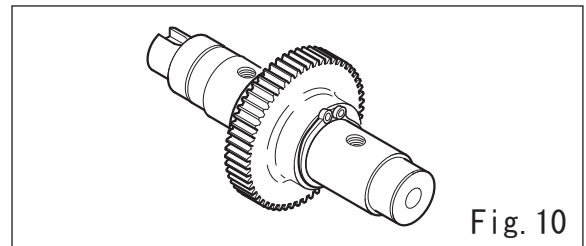

Fig. 10
- ① Separate the bearing cover (30) from the vibrating case
- ② Push out the rotary shaft (drive shaft side) (6) to the opposite side of the pulley of the vibrating case, withdraw the bearing and take off the oil seal (11) also (Remove both outer and inner bearings).
- ③ Withdraw the rotary shaft (drive shaft side) from the vibrating case. (Fig. 10)